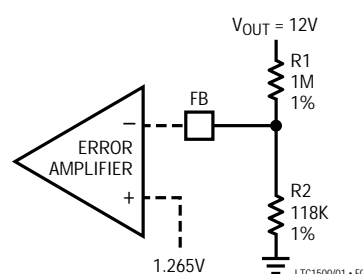

Figure 1. External Voltage Divider
Preset 3.3V and 5V parts are available. For other voltage applications the adjustable part uses an external resistor divider to set output voltage. Bias current for the feedback (FB) pin is typically $\pm 30\text{nA}$ (it is internally compensated). Thevenin divider resistance should be $100\text{k}\Omega$ or less to keep bias current errors to a minimum. This leads to a value for R1 and R2 (see Figure 1) of: